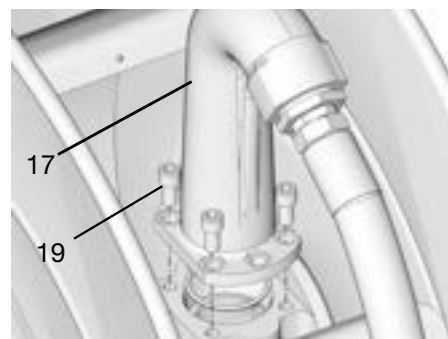

FIG. 36
6. Reinstall outlet (17) to spool. Replace and tighten bolts (19) securely. Torque bolts to 24 to 30 ft. pounds (32.54 to 40.67 N.m) (Fig. 36).